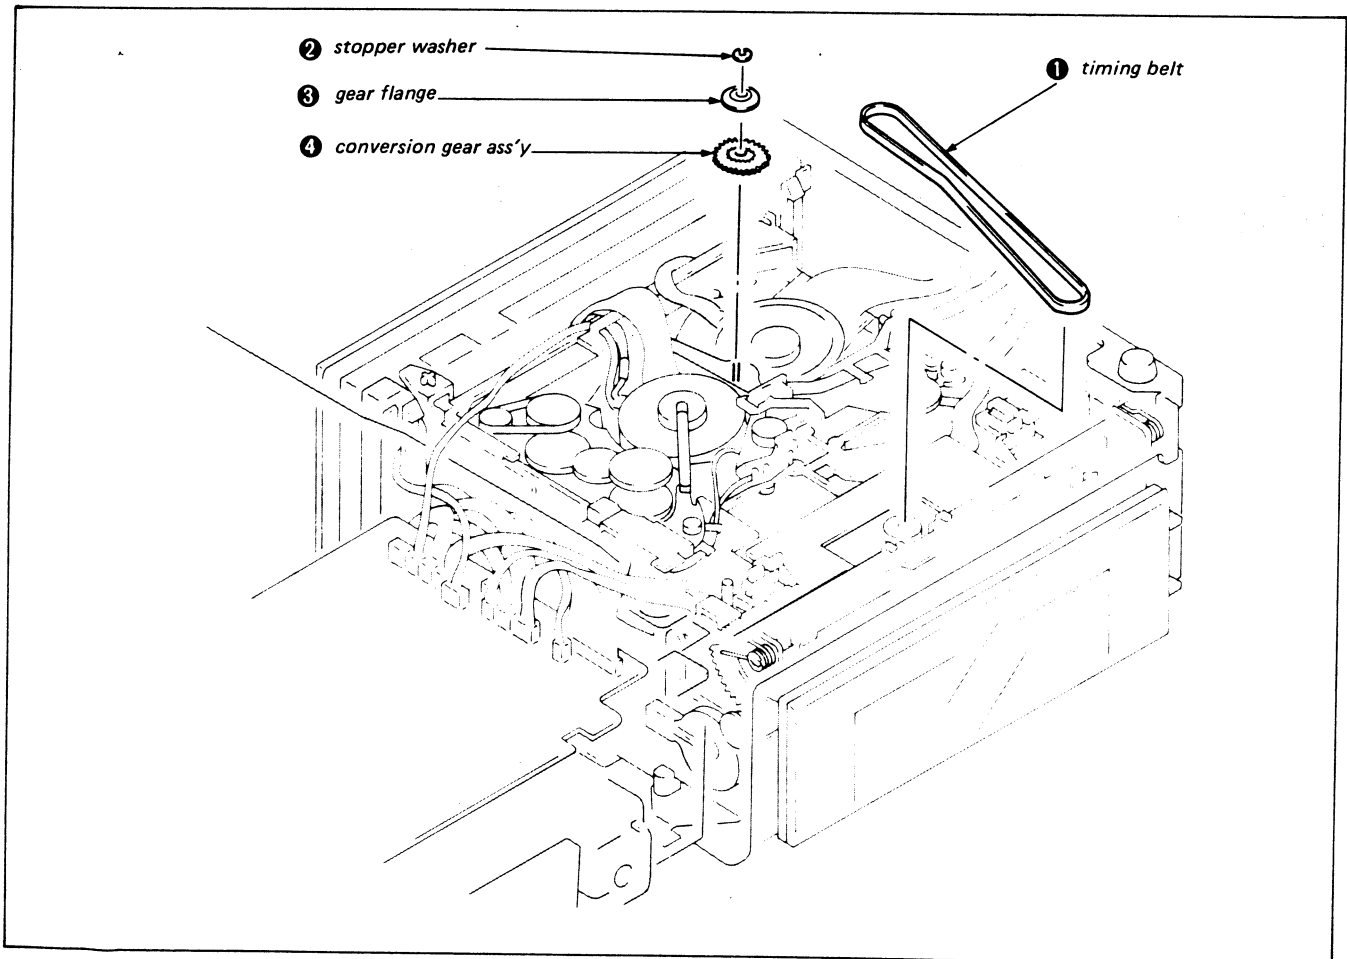

Fig. 3-51.
- 2) Remove timing belt ① and stopper washer ②, gear flange ③ and conversion gear assembly ④. (Fig. 3-51)